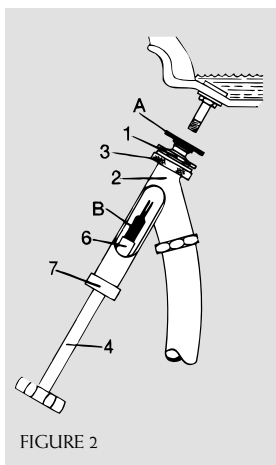

FIGURE 2
To connect liquid fill core ejector to one-piece style front tractor valves TR415, TR413 (figure 2), screw adapter (A) and gasket to union (1). Insert large end of core remover (B) securely into chuck of core housing ejector (6). Screw adapter and union assembly on valve stem finger tight. Screw ejector union and adapter assembly to core ejector body making sure gasket is in place. The rest of the operation is the same as with the above two-piece valve as described above.
valve. (Fig. 2)